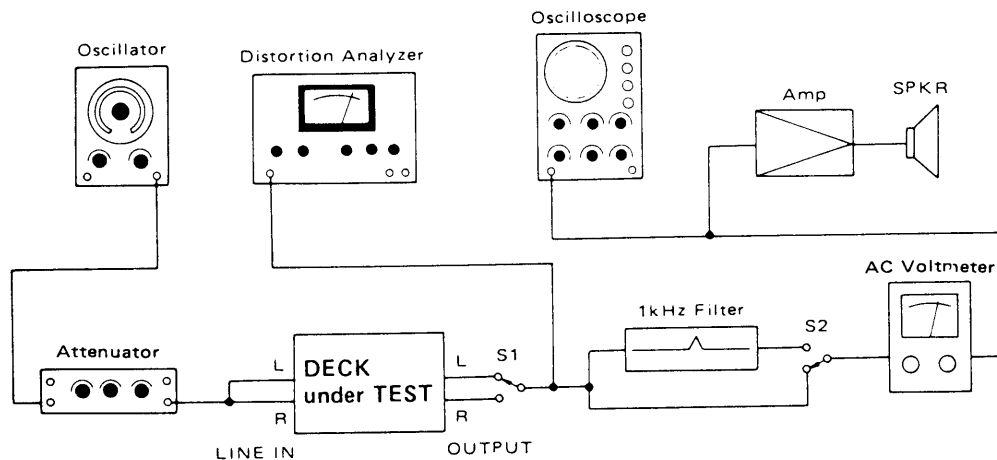

Fig. 5-1 Basic test setup
15. Erase efficiency 消去効果	Connection is same as in Fig. 5-1, but engage 1-kHz filter. Record a 1-kHz signal. Rewind tape to midpoint of recorded portion. Erase the recorded portion with no input signal. Find the difference between the 1-kHz portion and the "no-signal" portion. 接続Fig. 5-1. 1kHz B.P.F.使用、1kHz信号を録音後中間まで巻戻し、1部を消去、未消去部分と消去部分の1kHz出力レベル差を測定。
16. Channel separation チャンネル・ セパレーション	● Connection: Fig. 5-1, but do not connect LINE IN (R), and engage 1-kHz filter. ● Set the deck to record mode. Find the difference between the 1-kHz recorded portion (L-ch) and the "no signal" portion (R-ch). R-ch 無接続、1kHz B.P.F.使用、1kHz録音部分(L-ch)と無信号録音(R-ch)の1kHz再生出力レベルの差を測定。
17. Adjacent track crosstalk トラック間クロストーク	● Connection: Fig. 5-1, but do not connect LINE IN (L) and OUTPUT (L). ● Record a 125-Hz signal on R-ch and note output level. Invert tape and play R-ch track. Check leakage level against the output reference of previously recorded portion. L-ch 無接続. R-chに125Hzを録音し、その再生出力を基準レベルとする。次にテープを反転し、再生したときのR-ch出力レベルとの差を測定。
18. REC MUTE function REC MUTE効果	Connection: Fig. 5-1, but engage 1-kHz filter. Record a 1-kHz signal. Push REC MUTE button for several seconds. (At this time, make sure LED lights). Rewind and play the tape. Find the difference between the 1-kHz portion and the "no-signal" portion. 1kHz B.P.F.使用. 1kHz信号を録音し、途中REC MUTE鈕を押し無信号部を作る。そのテープを再生し、録音部と無信号部の出力レベル差を測定。